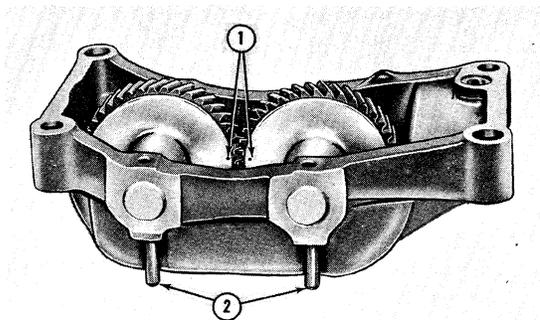

Figure 38
1. **BALANCER:** Install the balancer gears, thrust washers and shafts, Figure 38. The timing marks must align and should face the roll pin side of the balancer.